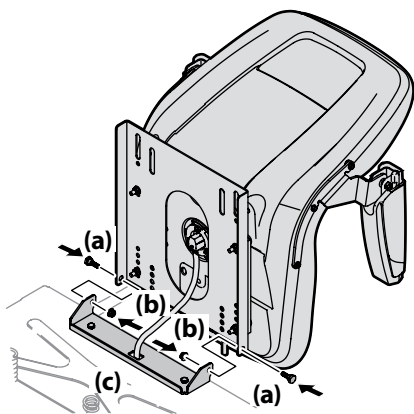

Figure 2-4
3. Rotate the seat into position and secure the seat into place with the previously removed shoulder screws and flange lock nuts. Be careful not to crimp or damage the wire harness while installing the seat. See Figure 2-4.